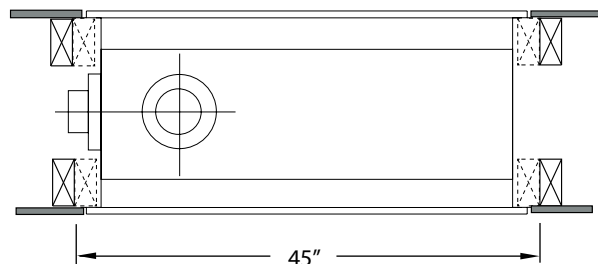

Figure 2b. Securing the fireplace to the framing cleats.
- Tack four studs (vertical, "broken line") in place, shown in Fig 2b.